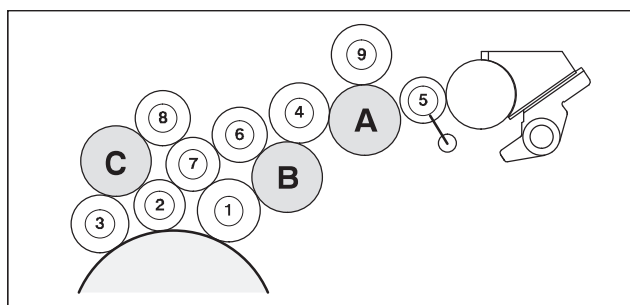

Fig. 57 Installation sequence, PU 2
1. Remove the 3rd ink transfer roller (Fig. 57/7), in order to check the ink stripes of the inking form rollers.